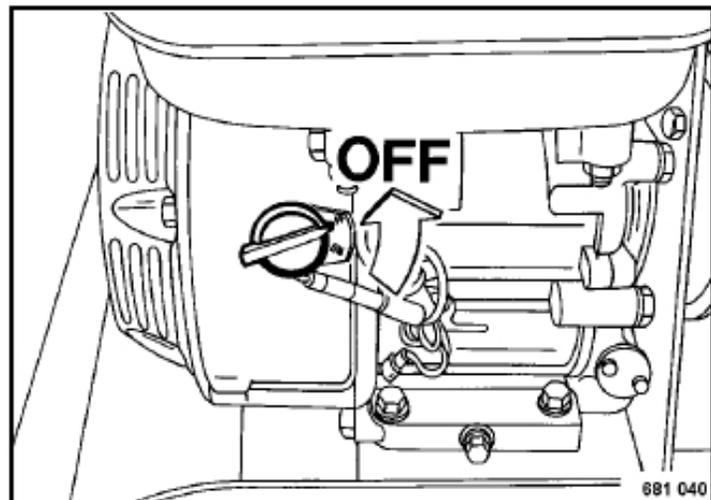

Fig. 20
- 1 Switch the ignition switch (Fig. 20) to position